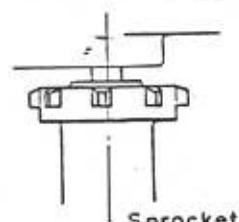

Fig. 69
2) Position a tooth of Sprocket as shown in Fig. 69.